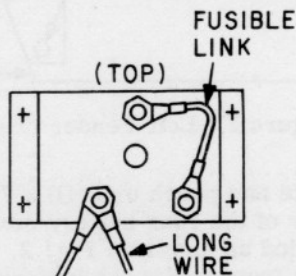

Figure 5. Power Disconnect (Rear View)
11. Thread the long wire through the undercarriage harness tubing into the lower control cabinet and connect it to the rear of the Power Disconnect Switch with existing wires numbered "2" as shown in Fig. 5. Dress the wire into the harness using wire ties and keep the wires clear of the steering gear.